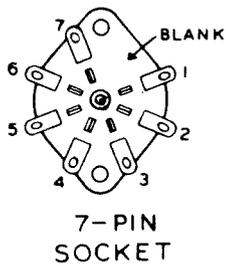

Figure 1
- (✓) Mount the two 7-pin and one 9-pin wafer type tube sockets on the chassis with 3-48 screws and nuts. See Figures 1 and 2 for identification. Note the position of the blank spaces in Pictorial 1 on Page 6. Observe that the sockets mount below the chassis.